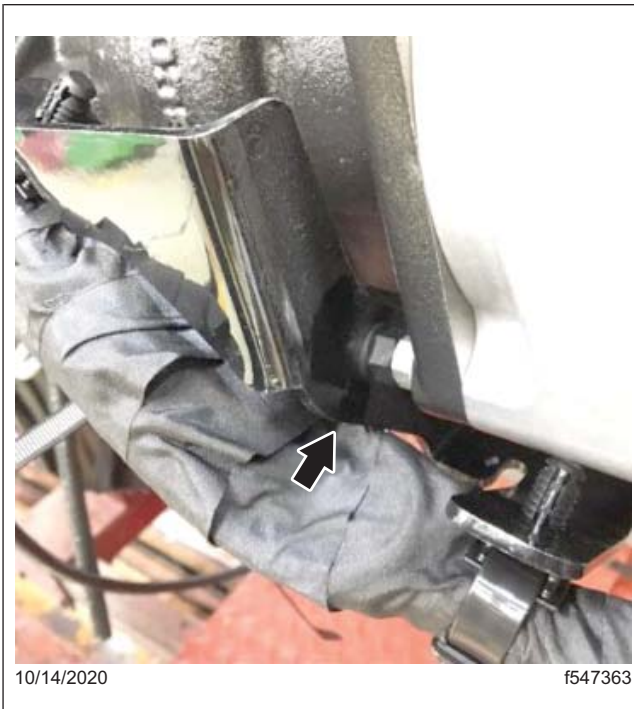
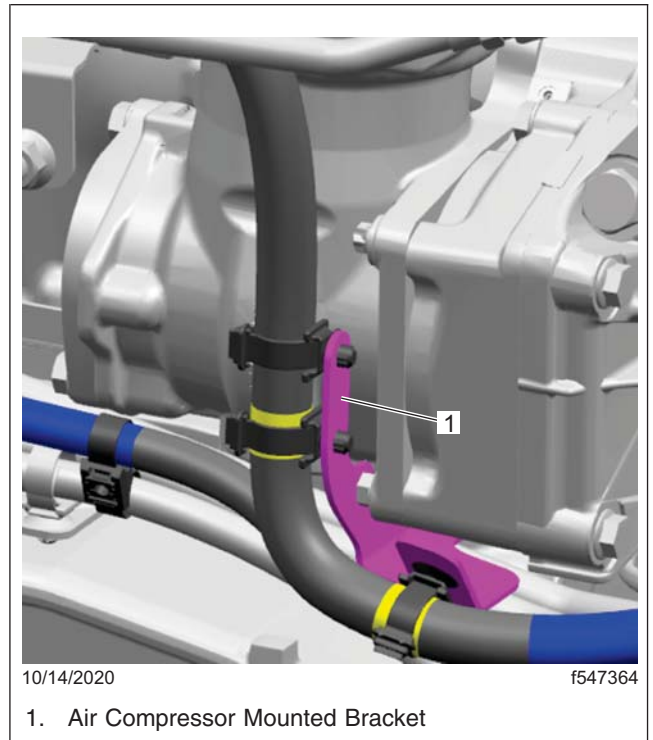

Fig. 13, Current Air Compressor Mounted Bracket Showing Area of Possible Harness Rub
Fig. 14, New Air Compressor Mounted Bracket, Back View
1. Replace the existing air compressor-mounted bracket (see Fig. 13) with the one supplied in the kit (part number 66-13326-000). See Fig. 14.